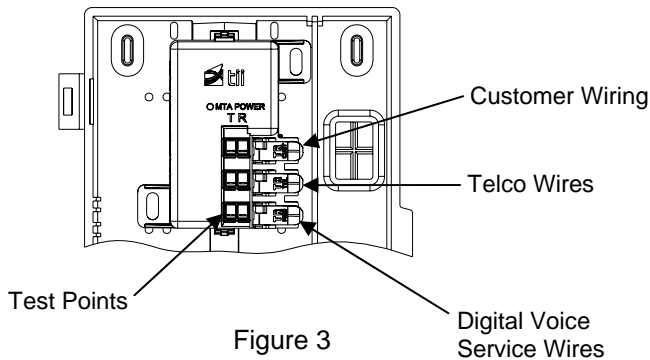

Figure 3
3. Disconnect the customer premise wiring from the Telephone Network Interface Device (NID). Straighten the ends of the wires, cut kinked and stripped ends. Pass the customer telephone wire through the enclosure (Cust) grommet. Lift the Green/Red rocker to full up position. Insert wires into the Cust wire rocker holes. While assuring that wires are fully inserted, lower the rocker to fully seated position (See Figure 3).